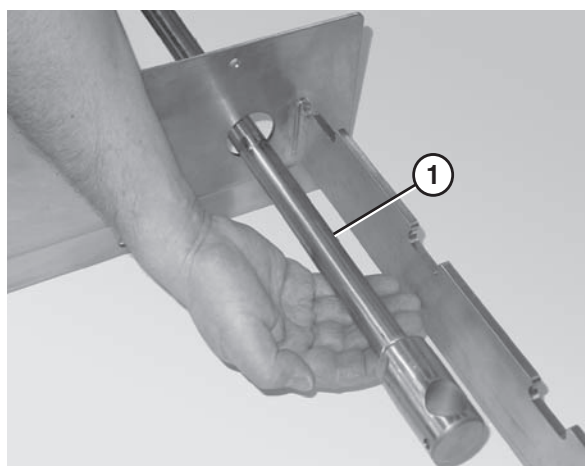

Figure 22
1. Slide the tip up shaft (**Figure 22, item 1**) through the designated slots in the frame.